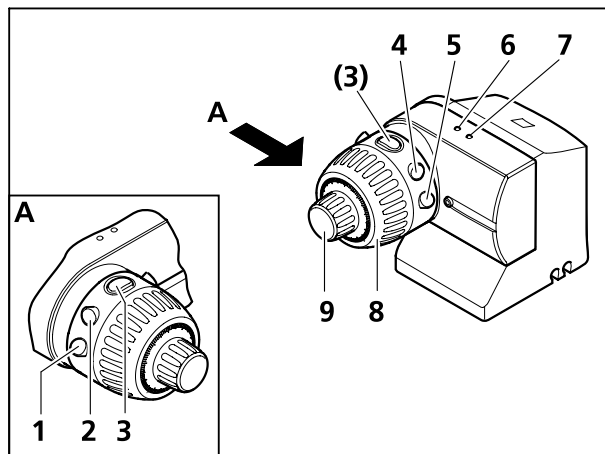

Fig. 45 MARC control unit
- Control of focus motor by using the coarse (Fig. 45/8) and fine drive knob (Fig. 45/9).
- Travel to zoom clickstop positions by pressing briefly keys **1** and **2** (Fig. 45/1 and 2).
- Quick zooming in positive and negative directions by means of a pair of keys – long press of keys **1** and **2** (Fig. 45/1 and 2).
- Quick focusing in positive and negative directions by means of a pair of keys – long press of keys **4** and **5** (Fig. 45/4 and 5).
- Storing a focus position – key **3** (Fig. 45/3).
- Travel to the stored position – key **3** (Fig. 45/3).
- Reversing the sense of rotation of the MARC unit – key **3** (Fig. 45/3).
If a focus motor ready for operation is connected, the blue LED (Fig. 45/7) will be lighting.
The motorized focus can be controlled quickly or slowly by turning the coarse (Fig. 45/8) or the fine drive (Fig. 45/9).
By briefly (≤ 200 ms) pressing key **1** or **2** (Fig. 45/1 or 2), the zoom body will travel to the next lower or next higher clickstop position.
By pressing key **1** or **2** (Fig. 45/1 or 2) for more than 200 ms, the zoom body will start traveling and not stop until you release the respective key or the end of travel is reached.
By pressing key **4** or **5** (Fig. 45/4 or 5), the motorized focusing system will start traveling upwards (**5**) or downwards (**4**) until you release the respective key or the end of travel is reached.
The current focus position will be stored when key **3** (Fig. 45/3) is being pressed between 2 s and 5 s.
The green LED (Fig. 45/6) briefly lighting up and **one** short beep tone on the motorized focusing system will indicate the completion of the storing process after 2 s.
When pressing key **3** (Fig. 45/3) for less than 2 s, the motorized focusing system will travel to the stored focus position.
The sense of rotation will be reversed when key **3** (Fig. 45/3) will be pressed for more than 5 s.
The green LED (Fig. 45/6) briefly lighting up twice and **two** short beep tones on the motorized focusing system will indicate that change-over has been completed.